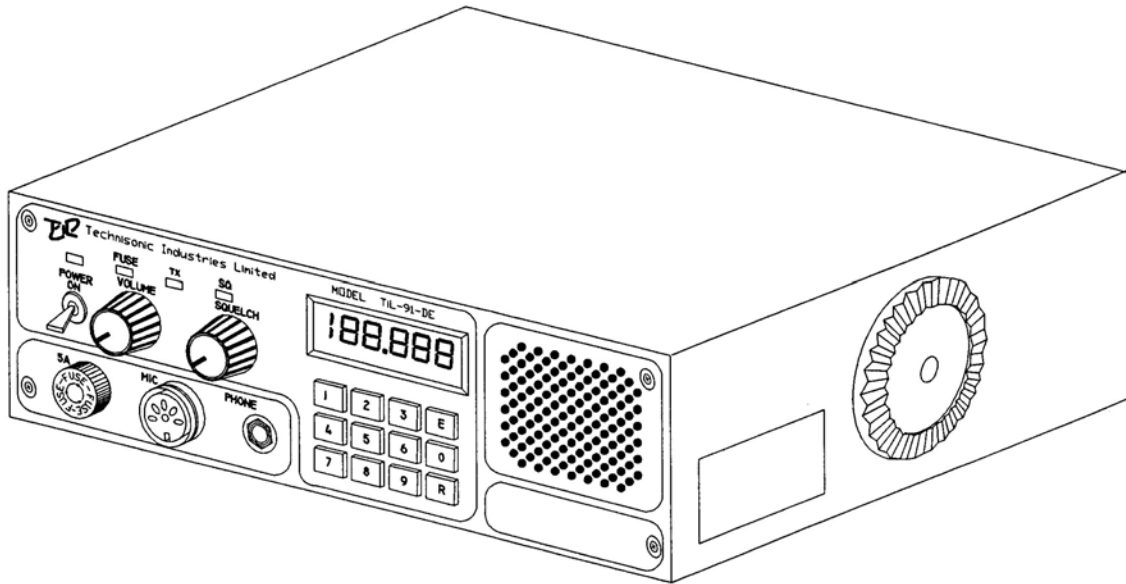

Figure 1-1 91-DE Transceiver - General View
- (1) Intended Purpose and Use - The system is intended for installation in airport service vehicles, such as cars, snowplows, and grass cutters, to allow ground control over such vehicles while they are negotiating aircraft manouvering areas.
- (2) Brief Description of System Units - VHF/AM Mobile Transceiver System 910200 consists of the following items:
- (a) Transceiver Model 91-DE, Part Number 901006-2, Series 1, is a low power VHF/AM transceiver which operates in simplex and allows quick keypad access and LCD display of the frequency range 117.975MHz to 138.000MHz with 25kHz channel spacing. The transceiver operates from a 12 volts dc nominal vehicle power supply (negative ground only). An optional extra cost dc to dc convertor P/N 863118-1 can be installed in the transceiver to allow operation from an input supply from 10.8 to 30.0 Vdc. A general view of the transceiver is given in Figure 1-1. The transceiver is normally located under the dashboard of a vehicle using a mounting bracket and mounting hardware.